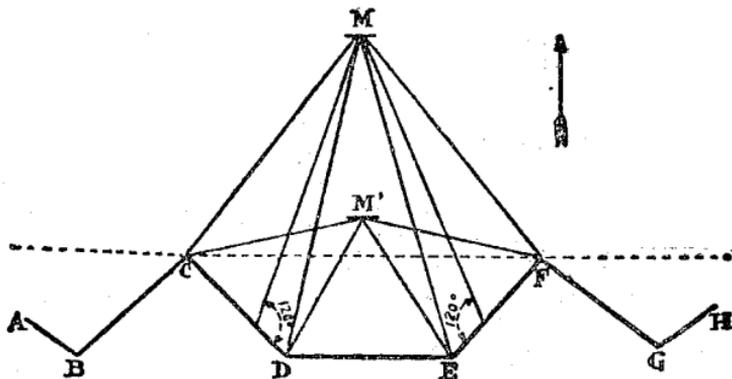

FIG. 167.—Broken-line trace.
and it is, moreover, better adapted to the terrain unless the country is absolutely flat. (Fig. 167.)
Thus, an enemy M (fig. 167) seeking to penetrate the reentrant CDEF is swept in front by fire from the troops along the parapet DE and obliquely by those along the parapets CD and EF. The fire from the two last named becomes more and more effective the farther the enemy advances toward M; and there will come a moment when the sheaf of fire of a single machine gun, placed in the vicinity of C or F, will enflade the entire hostile line from end to end, thus *perfectly flanking* the part of the parapet DE, and the direct fire from DE will no longer be necessary to stop the enemy.
From that which precedes we must conclude: (1) *That the reentrants constitute the strong parts of a broken line* since they have, across their front, a cross-fire which becomes more and more deadly as the attack advances. [Figs. 169 and 170 show that the sector upon which no fire can be directed diminishes as the angle at the salient is opened.] (2) *That men can be economized on the line DE in case all or part of CD and EF can deliver an effective fire.* The minimum limit of a reentrant angle is naturally  $90^\circ$ , since the defenders of one branch or face of the angle, if it were less than  $90^\circ$ , might fire on those of the other face. (Fig. 167.) If it is desired that the terrain in front of the two faces be entirely swept by fire, then the reentrant ought not to be more than  $120^\circ$ . (Fig. 168.) (3) *On the contrary a salient forms a weak part of the line—the assailants can overwhelm it with converging fire, and if it is isolated it can answer only with a divergent fire, and in some cases not at all.* \* \* \*